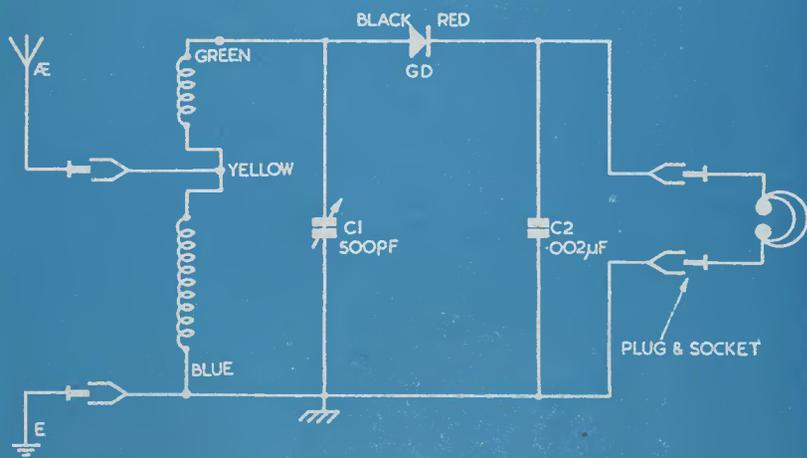

FIG. 1
On the chassis you will notice a broken line (- - -) rectangle, marked 'K'. It shows the limits of a small aluminium box placed beneath the chassis, which contains all the components of the HF oscillator. To simplify the construction, E has been placed so that it leads directly into the oscillator box, which measures approx. $3'' \times 3\frac{1}{2}'' \times 2''$ and is made from 1/16" aluminium. The rectangles T2 and T3 show where the mains transformers are placed, and the small rectangle (F) where the flange carrying 01 is mounted. The holes in the front flange are marked according to the symbols used in the circuit diagram of Fig. 1. M is the microphone input plug.
From Fig. 1 it will be seen that there is nothing unusual in the circuit, this being a